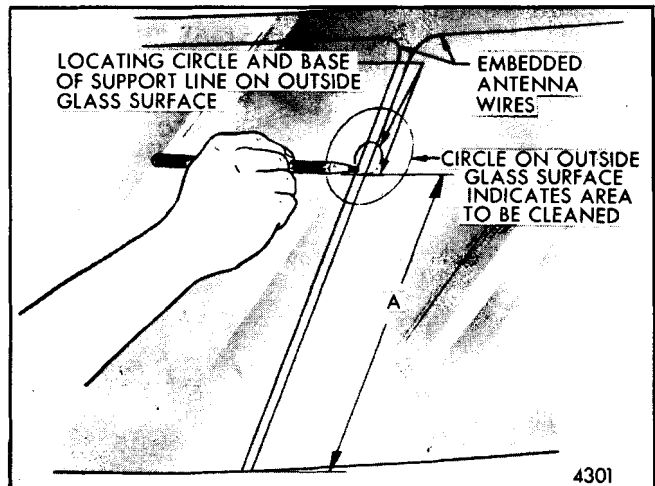

Figure 4-10-Locating Bonded Rear View Mirror Support on Glass
1. Determine rear view mirror support position on windshield. Support is located at center of glass at one of following dimensions from base of glass to base of support (dimension "A" Figure 4-10):
2. When location is determined, mark location on outside of glass with wax pencil or crayon. Also make larger diameter circle around the mirror support circle, on the outside glass surface (see Figure 4-10).